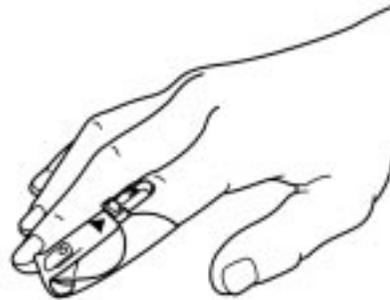

Figure 3
- With *OxiCliqu* sensors, if intermittent readings are required, leave the sensor on the patient and either disconnect the *OxiCliqu* sensor cable (OC-3) from the sensor (Figure 3) or secure the cable with tape. Protect the site as much as possible when not monitoring.